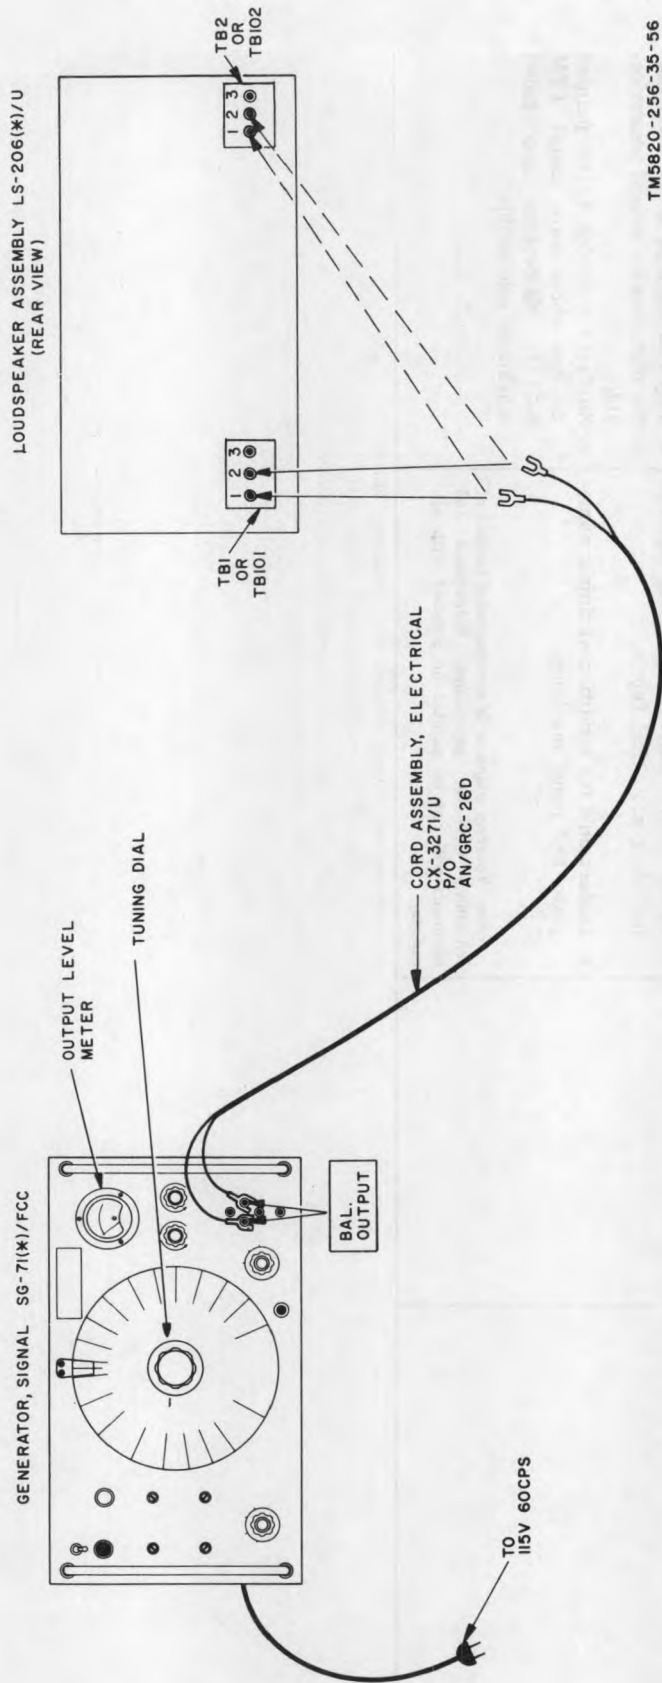

Figure 4-11. Loudspeaker Assembly LS-206(*)/U, test setup.
- (1) Signal Generator SG-71(*)/FCC.
- (2) Cord Assembly, Electrical CX-3271/U (part of AN/GRC-26D).
b. Test Connections and Conditions. Connect the equipment as indicated in figure 4-11; connect the CX-3271/U to TB1 or TB101.